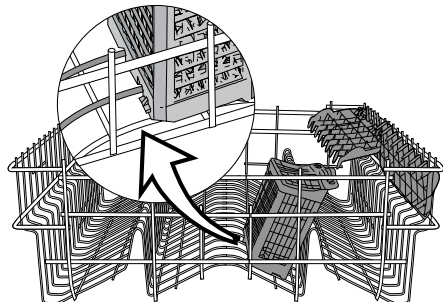

Fig. 21 Placing a cutlery basket section into the upper basket
The cutlery basket can be split into three sections and its grid inserts may also be removed. The smaller cutlery basket sections also fit in the upper basket (as shown in Fig. 21). Place long items such as ladles, cooking spoons etc. on the cup racks of the lower or upper basket.
- You can also use the smaller sections of the cutlery basket in the upper basket. Simply prop them against the basket wire, as shown in Fig. 21. Aligning the four indentations on the base of the cutlery basket section with the basket wires (see inset in Fig. 21) will provide extra stability.